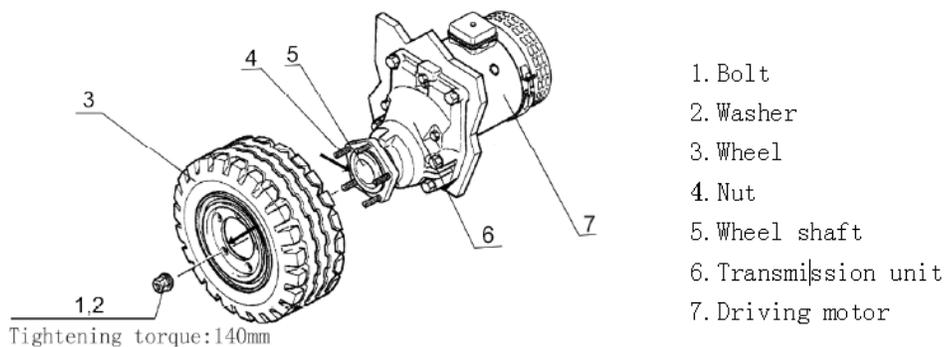

Figure 1-10
(1) Clean mating surfaces on wheel shaft and wheel thoroughly and check if it is damaged.
(2) The bore pattern in the rim should be in line with the bolts of the wheel shaft; then push the wheel on.
(3) Install hub nuts and tighten them. The tightening torque of it is 140Nm. (See figure 1-10)